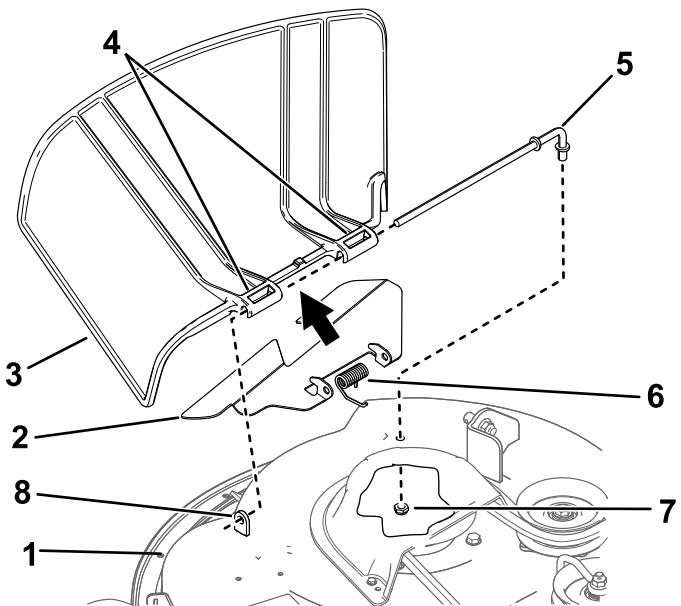

Figure 74
1. Remove the nut (3/8 inch) from the rod under the mower (Figure 74).
2. Slide the rod out of the short stand-off, spring, baffle, and grass deflector (Figure 74).
4. Install the new grass deflector and the baffle (Figure 74).
7. Slide the rod through the baffle and second grass-deflector pivot (Figure 74).
9. Secure the rear end of the rod into the mower with a nut (3/8 inch) as shown in Figure 74.